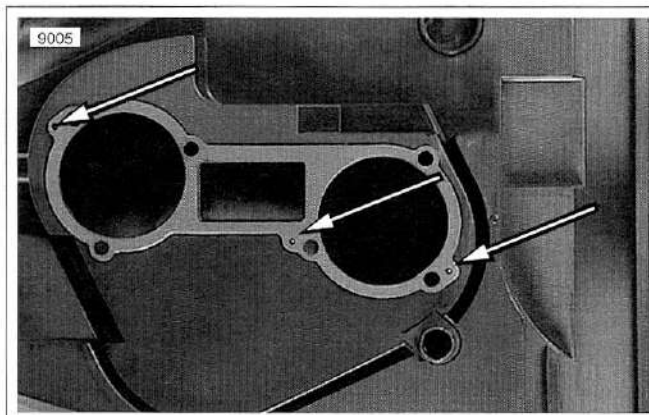

Figure 1-6. Air Filter Gasket Alignment Pins (3)
2. See Figure 1-6. Inspect and replace bottom airbox gasket if damaged. Check gasket position on air filter bottom. Gasket is located by three alignment pins on mating surface.